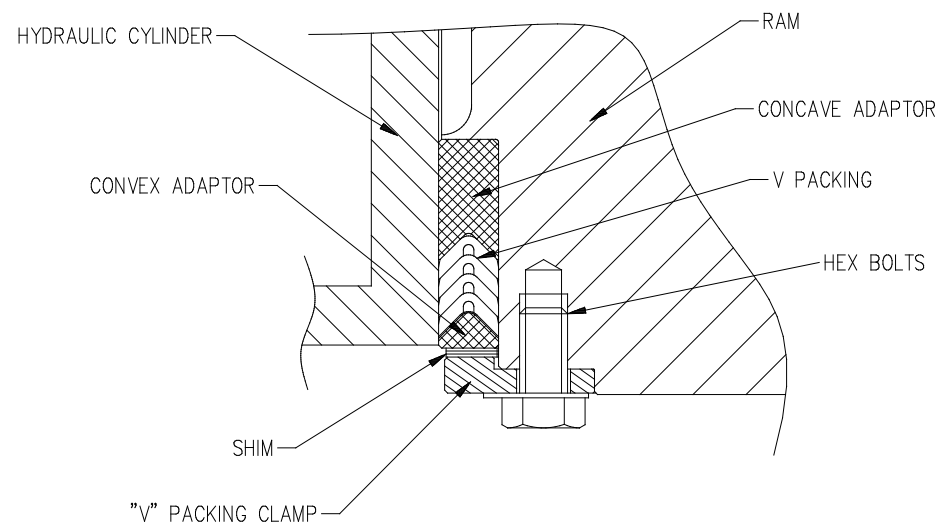

Fig. 6.6.4
- Remove the hexagonal bolts from the ram and the remove the Clamp "V" packing, shims, convex adapter and "V" packing. (Fig. 6.6.4)